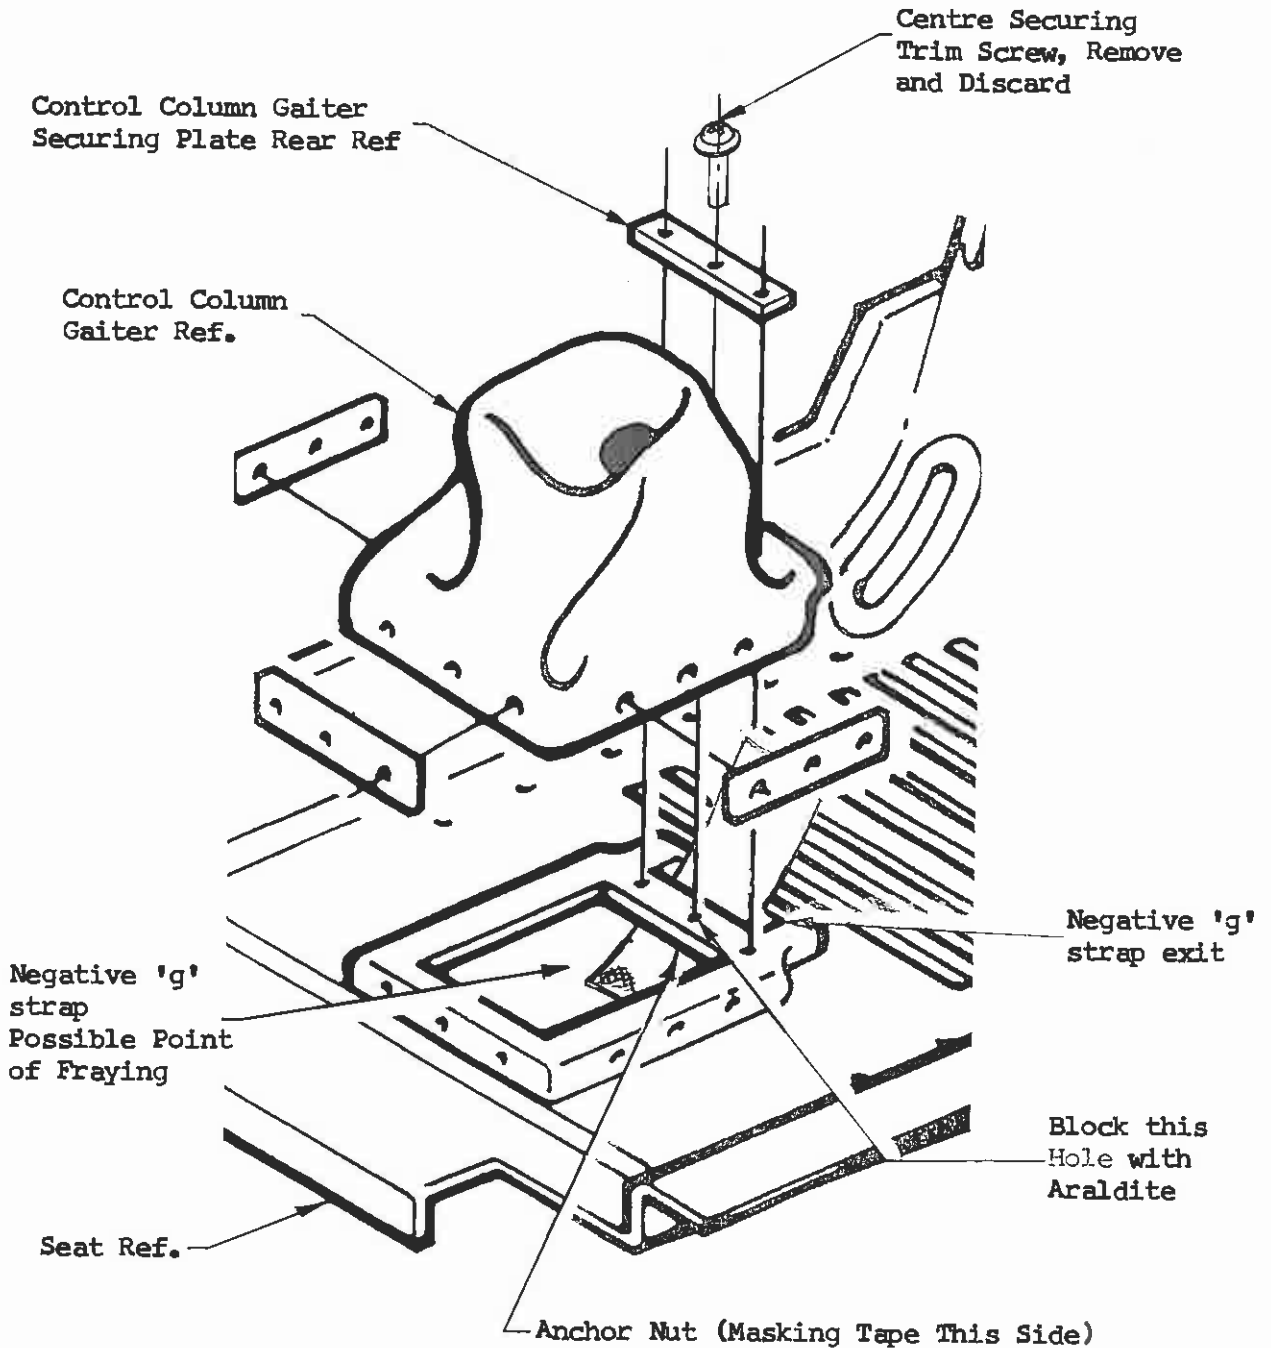

FIG. 1
2. Inspect negative 'g' strap for fraying, especially in the area of the aft retaining plate's screw. Ref. Fig. 1, page 3.
4. Cover the bottom of the centre hole, i.e. anchor nut lower face as indicated on Fig. 1 with masking tape or similar.